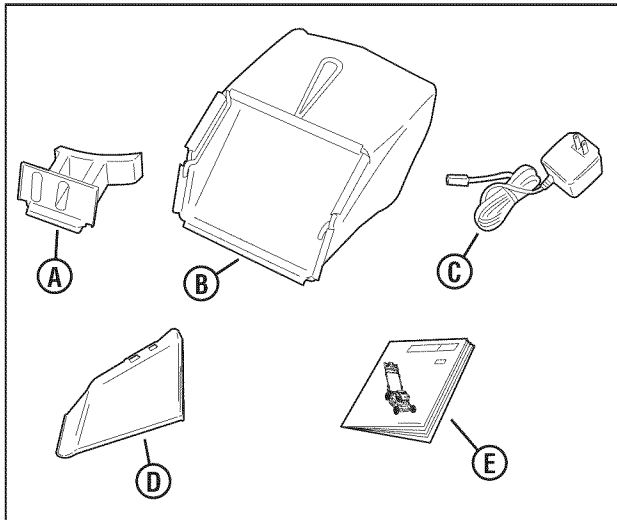

Figure 1: Items included
- Mulching plug (**A**, **Figure 1 - installed**)